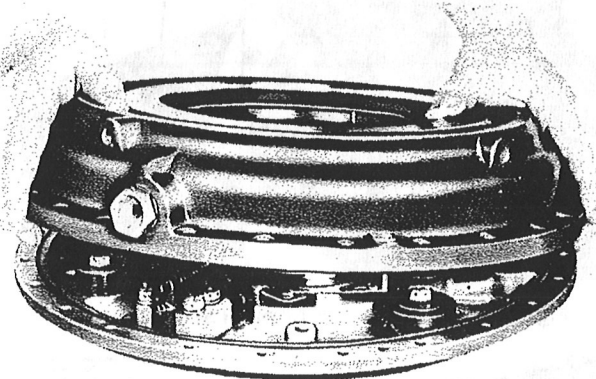

Figure 60—Removing Regulator Cover
(11) Lift the cover from the housing. (See figure 60.)